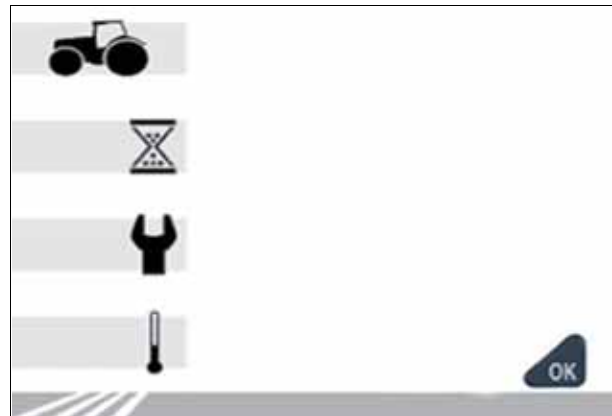

Fig. 2.
- When the engine is started, the start screen appears fig. 2.
- It is possible to return to the start screen by pressing  fig. 2
- Press the left or right keys  to access the list of setting screens (A).